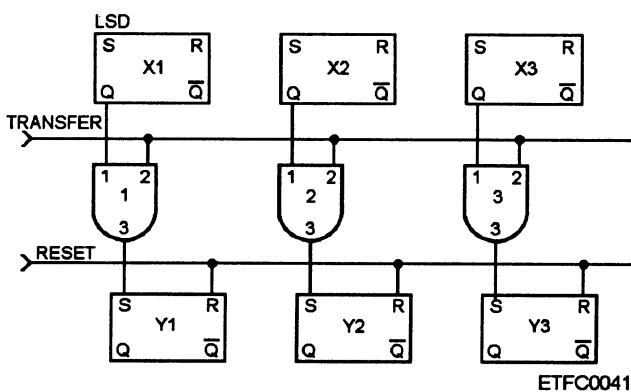

Figure 4-24.—example of a single-line parallel one-side transfer.
- Single-line parallel transfer (direct method)—Only 1's or 0's are moved in a bit-for-bit, order-for-order method. The receiving register is cleared of its contents before the transfer occurs. If 1's are transferred, it is referred to as a one-side transfer. If 0's are transferred, it is referred to as a zero-side transfer. See figures 4-24 and 4-25 as examples.